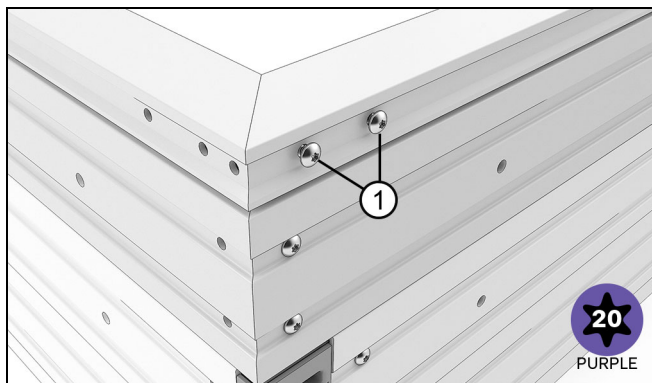

Figure 45
3. Slightly loosen the exterior screws holding the key to the jamb with a T20 Torx® head bit. This will allow the key to align with the head jamb holes. See Figure 45.